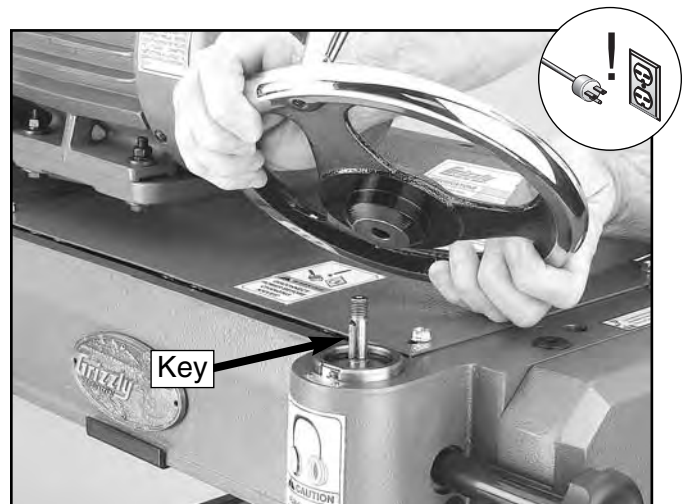

Figure 10. Installing handwheel.
2. Place the handwheel over the keyed shaft shown in **Figure 10**. Make sure the keyway in the handwheel lines up with the key in the shaft.